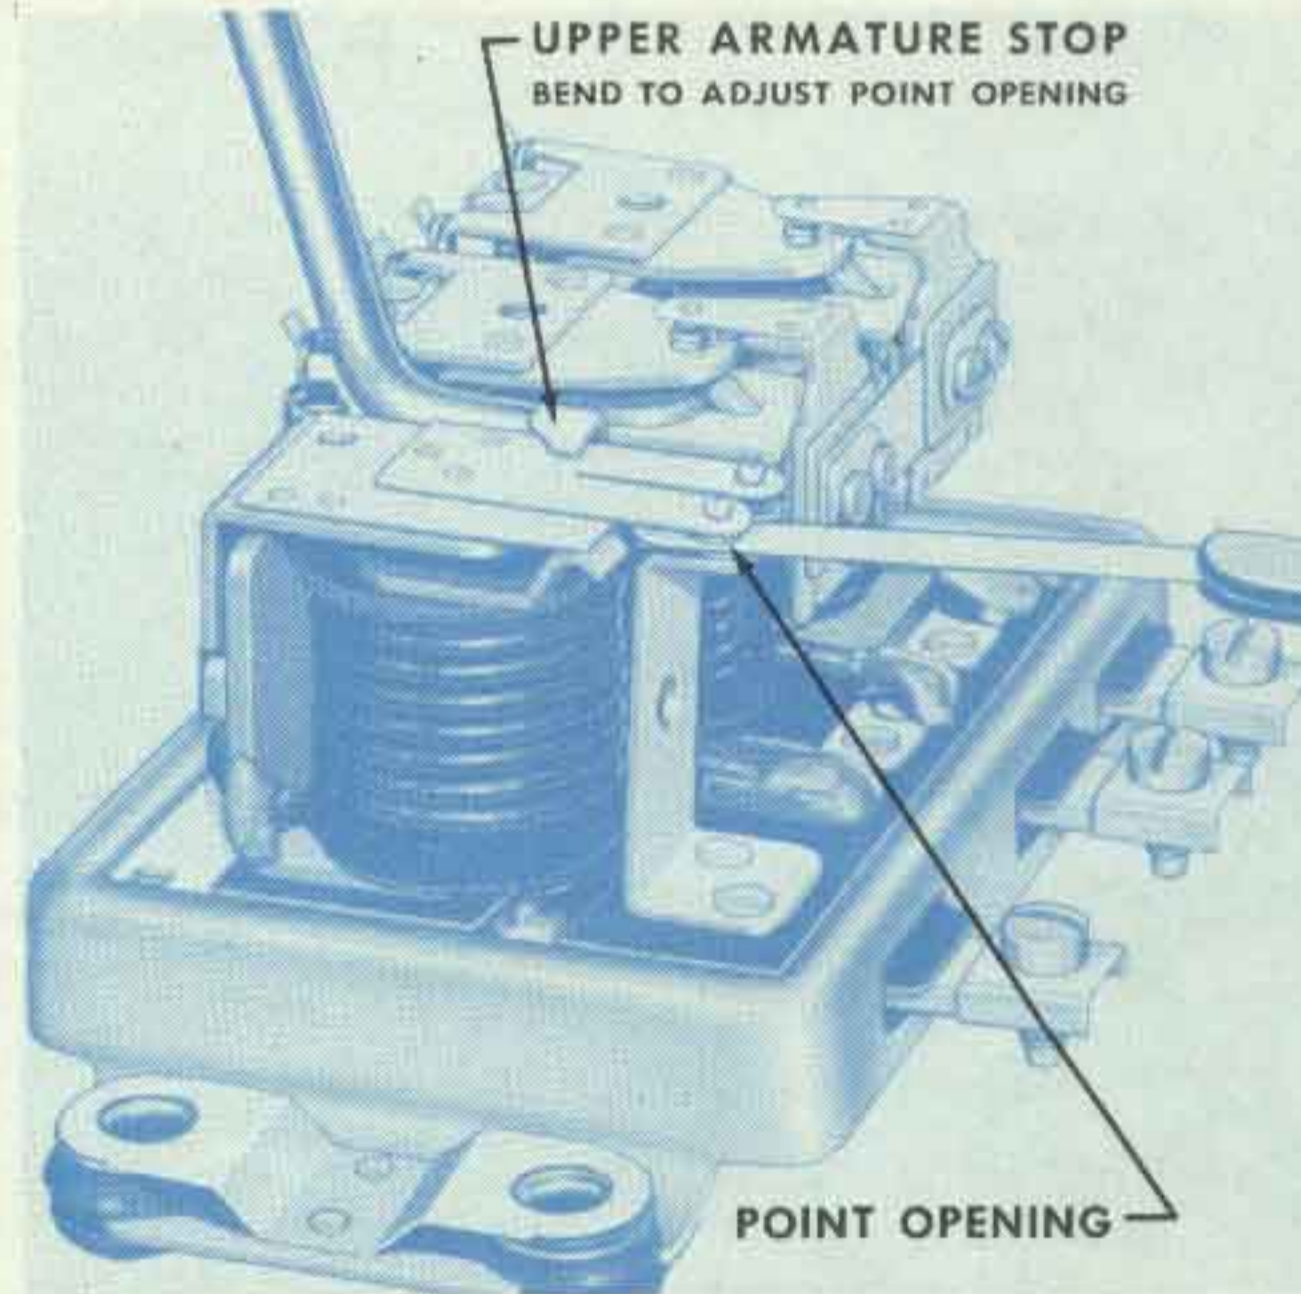

Figure 7—Cutout relay point opening check and adjustment. Battery must be disconnected when this check is made.
**POINT OPENING**—Check point opening and adjust by bending the upper armature stop (Fig. 7).